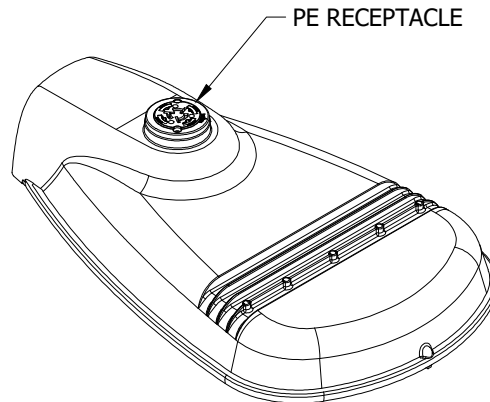

FIGURE 5
5. **PHOTOELECTRIC CONTROL:** ORIENT THE PHOTOELECTRIC (PE) RECEPTACLE SO THAT THE WORD "NORTH" IS DIRECTED TRUE NORTH. SEAT AND LOCK THE PE CONTROL/RECEPTACLE AND ROTATE CLOCKWISE UNTIL WORD "NORTH" IS TRUE NORTH. LOWER PE RECEPTACLE INTO POSITION, SEE FIGURE 5 AND 6.